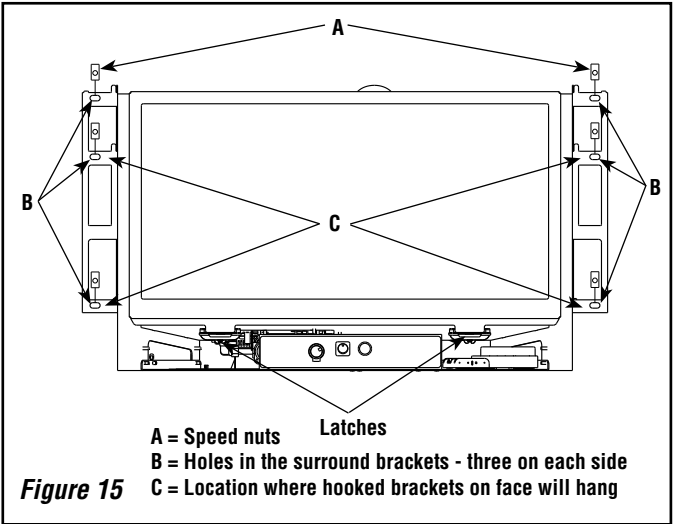

Figure 15
1. Remove the speed nuts (**A** in **Figure 15**) from the parts bag and install (with the flat surface forward) on the six holes in the surround brackets - three on each side of the insert (**B** in **Figure 15**). A flat bladed screwdriver may help in installing the nuts.
The faces come with hooked brackets. To install the face, hang the hooked brackets on the surround brackets (See **C** in **Figure 15**).